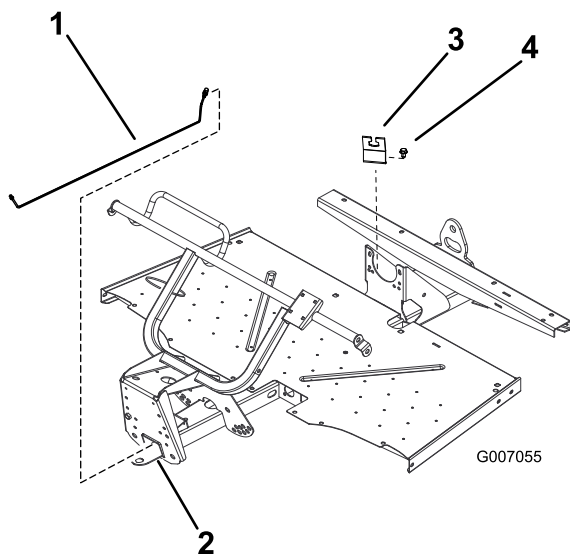

Figure 13
5. Install the center brake line (104-6794) by inserting the end into the channel above the front hitch (Figure 13). Keep the tubing to the left side (when looking at the front of machine) as it is slid in.
8. In the center channel at the mid point of the vehicle, install a brake hose bracket (104-6799) with a screw (1/4 x 1/2 inch) to support the tubing (Figure 13).